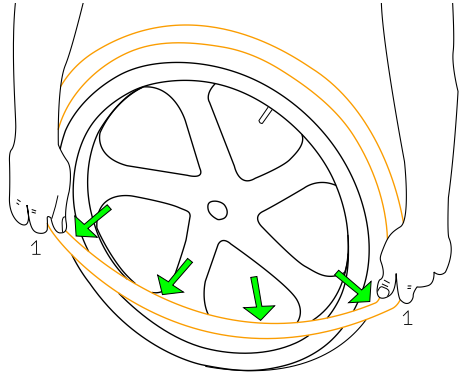

Figure 4.22
- Continue to work the tyre onto the rim. (Fig 4.22, 1)